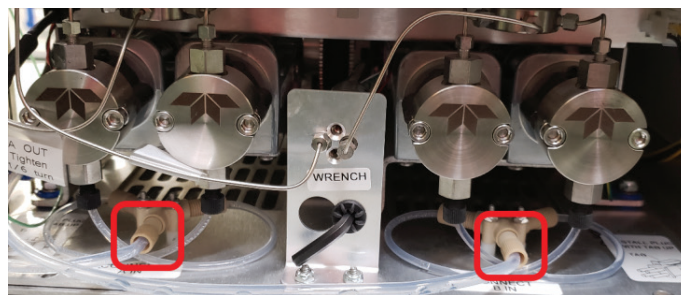

Figure 1: Y-Fitting inlet tubing
1. With your fingers, disconnect the input tube at Y-connector below each set of pumps (Figure 1). If the fittings are too tight to be disconnected by hand, then gently use a pliers to loosen the fitting enough to finish disconnecting it by hand.
6. Connect the solvent inlet tube at Y-connector below each set of pumps (Figure 1).